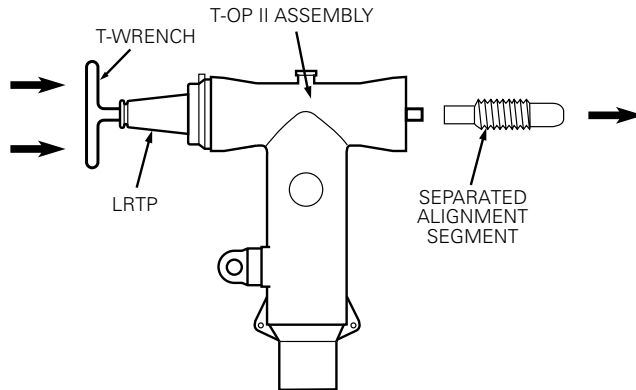

Figure 9. LRTP permanently installed into T-body forming the T-OP II assembly
- See Figure 9 for illustration of completed LRTP installation.